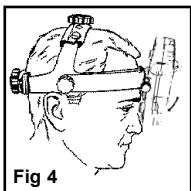
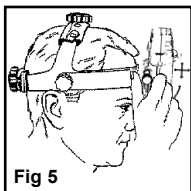

Fig 4
Fig 5
Position the All Pupil II as close to the eyes as possible for maximum field as shown in fig 4. by using the hinge adjuster (D) as shown in fig 5.